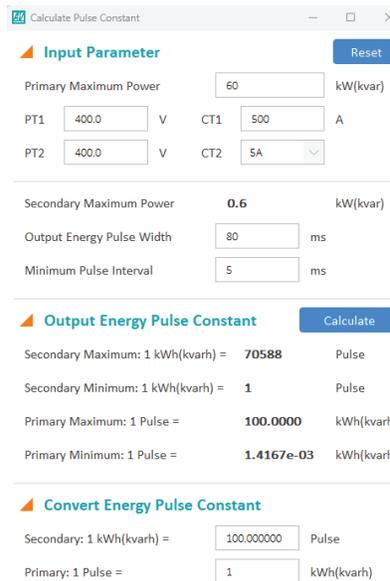

Figure 5-33 Pulse Constant Calculator from Acuvim 2 Software
- Once the pulse constant is determined, it will need to be configured in the general settings. From Figure 5-33, the pulse constant that is entered into the meter is 100.